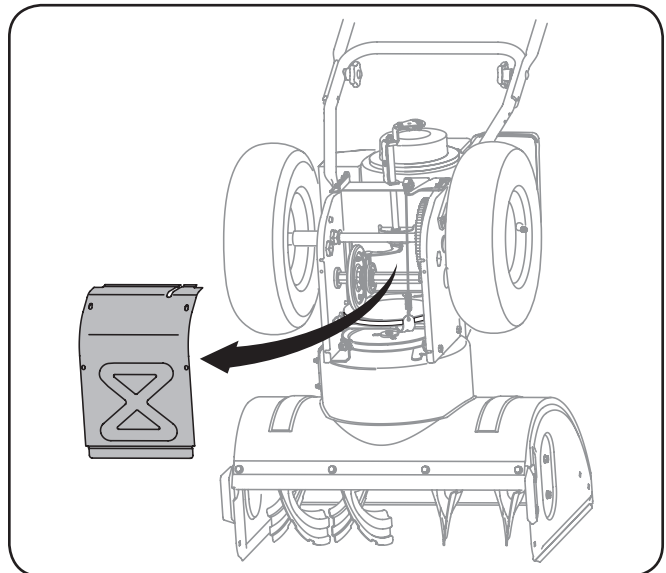

Figure 7-4
6. Remove the frame cover from the underside of the snow thrower by removing the self-tapping screws which secure it. See Fig. 7-4.
5. Remove the frame cover from the underside of the snow thrower by removing the self-tapping screws which secure it. Refer to Fig. 7-4.